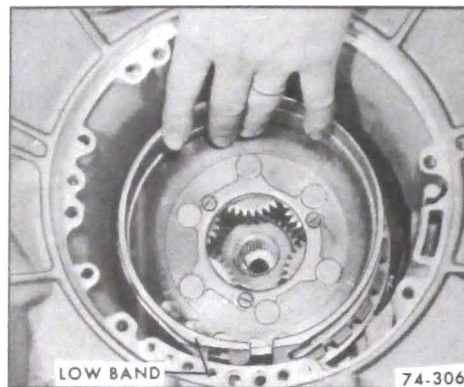

Figure 74-306
2. Install low band into case. See Figure 74-306.